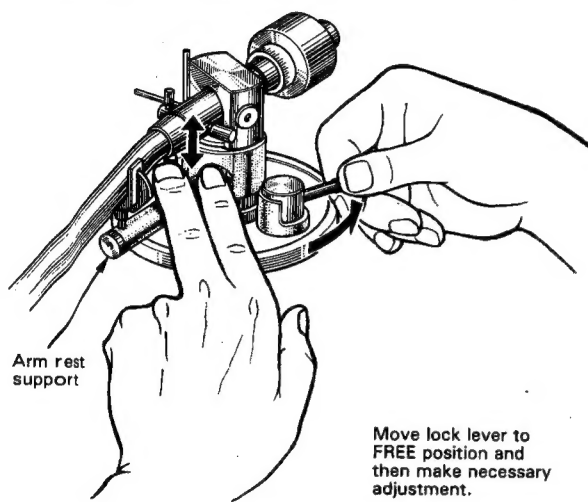

Fig. 11
- ① Check that all power switches are in the OFF position. Then, place a record on the platter.
- ② Set the lock lever to the FREE position as shown in Fig. 11.
- ③ Place the stylus on the record.